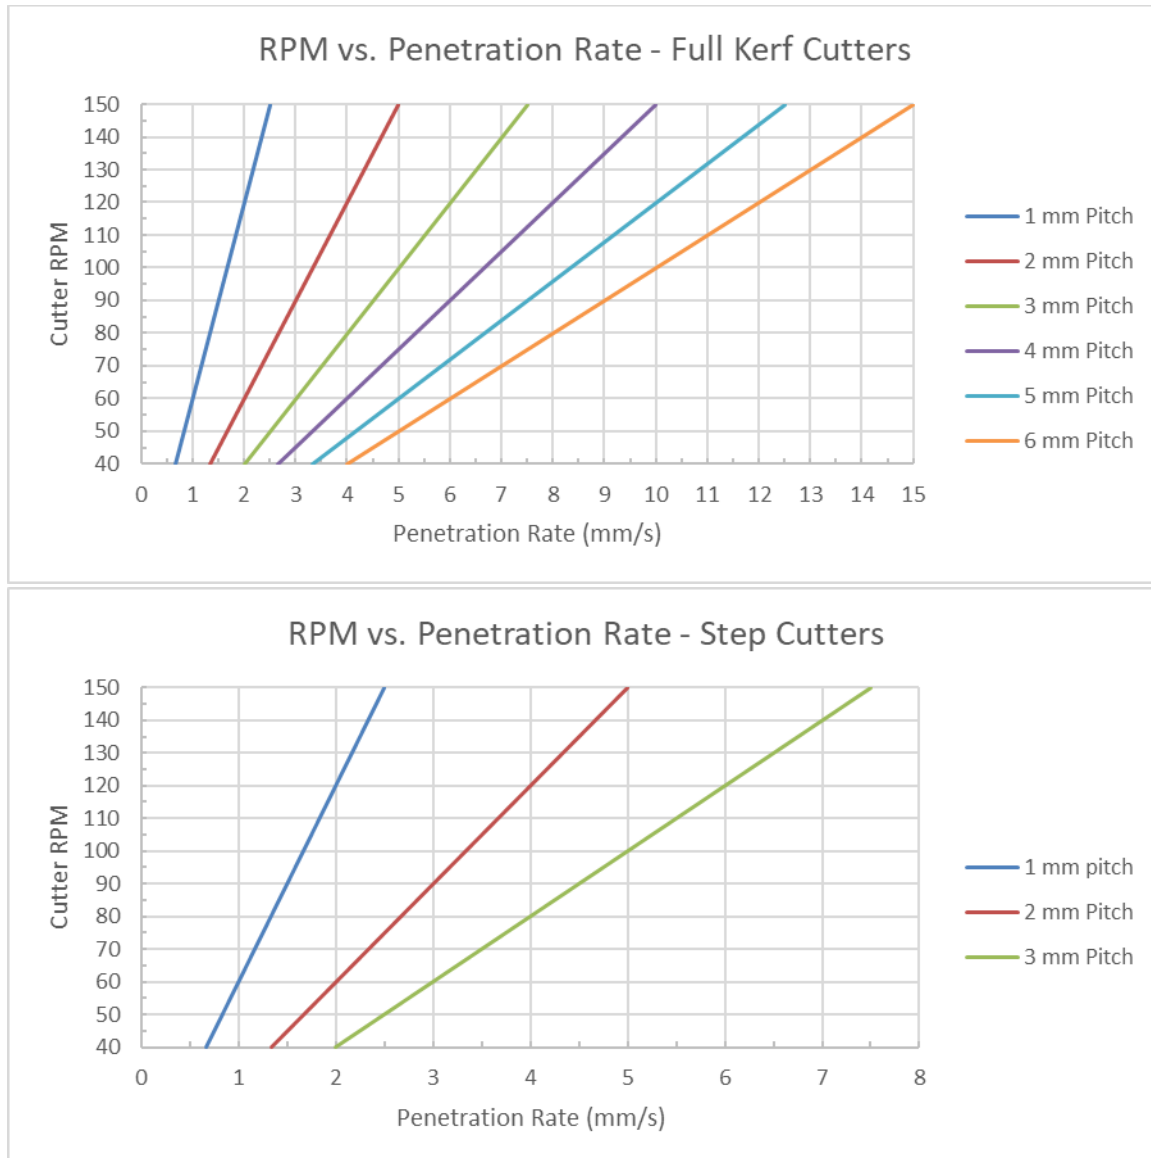

Figure 39. A guide to penetration rates as a function of shoe pitch and drill velocity for full kerf and step cutters.
- 4) Reduce the winch velocity to the desired cutting penetration rate about 5 cm above the hole bottom. Default to the nominal rate for the shoe and cutting speed combination. See *Figure 39* for details.